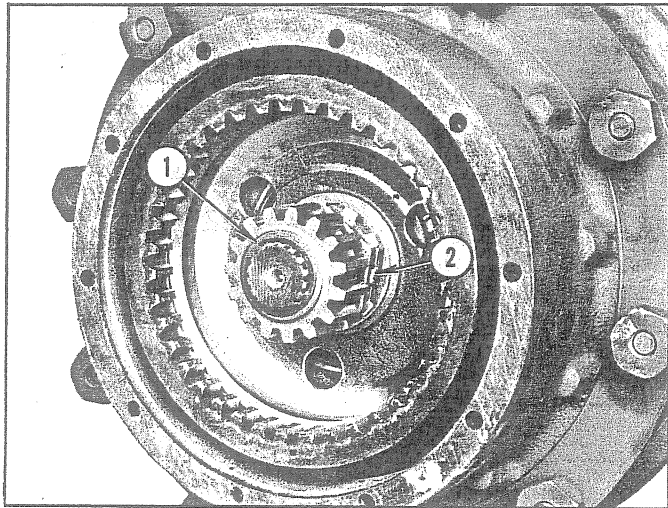

Fig. 79 - View Showing Sun Gear and Lock on Spindle Nuts
4. Remove retainer ring, No. 1, Fig. 79, which secures sun gear to axle shaft -- then remove sun gear.
5. Straighten the tangs on the lock, No. 2, Fig. 79, that secures the spindle nut.